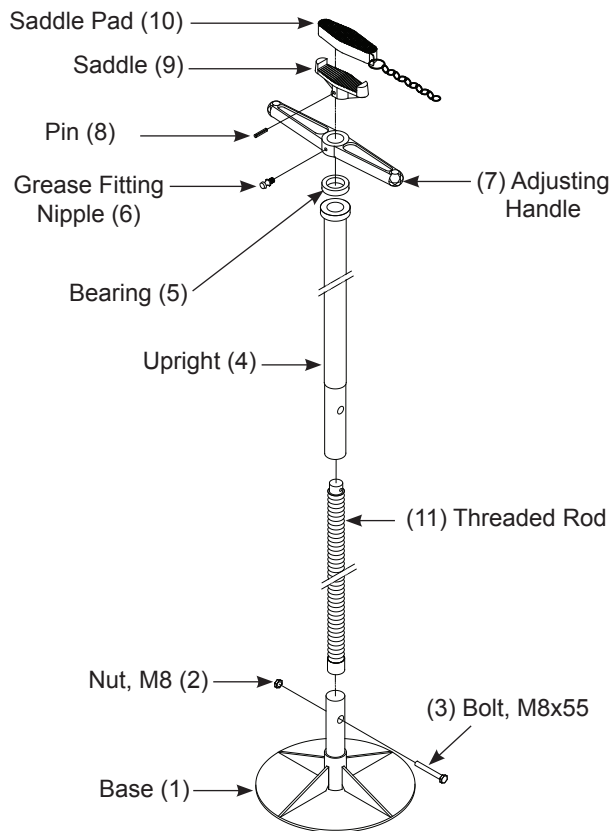

Figure 1 - BH5710 Nomenclature
1. Make sure all parts are present (see Fig. 1 & 2). If any parts is missing or damage, do not attempt to assemble, install or operate the product. Contact Customer service.
2. Begin assembly by inserting smaller end of threaded rod (11) through the bottom of upright (4), allowing small end of threaded rod to project out of the top of upright.
3. Place bearing (5) over the threaded portion, then spin the adjusting handle (7) clockwise onto the threaded rod.
4. Saddle (9) can now be fastened by inserting the pin (8) through saddle & threaded rod (11).
5. a. For Model BH5710 (see Fig. 1):
**Parts List:** (see Fig. 1 & 2 for reference number.)